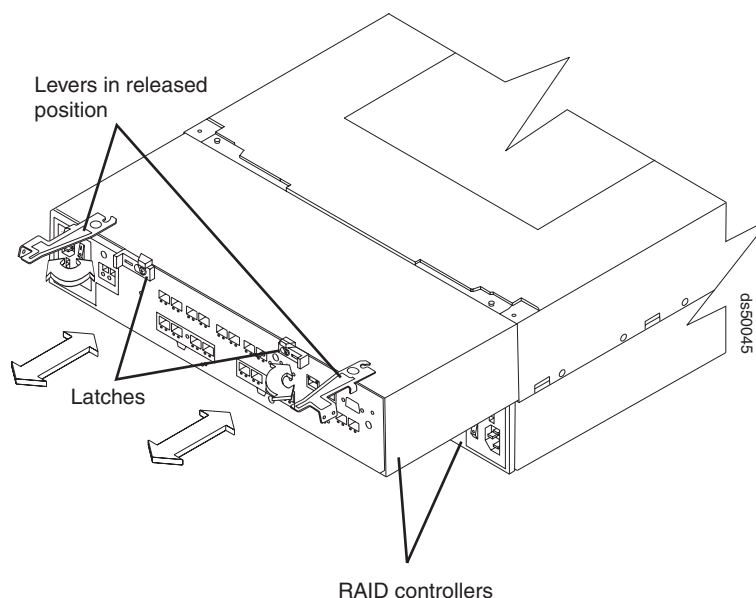

Figure 110. Removing a controller from the DS5100 and DS5300
11. Release the controller levers and remove the controller. Figure 110 shows the controller sliding from the storage subsystem chassis.